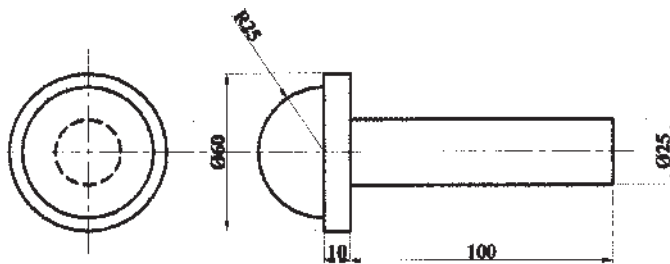

Fig. 6: Upsetting job
6. Explain the basic rules for upset die design with the help of component shown in fig.6. 16